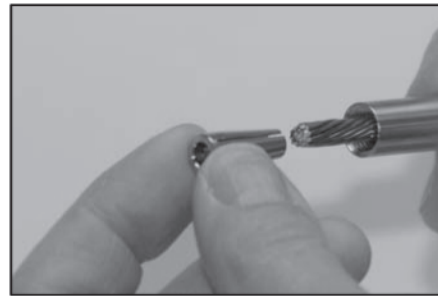
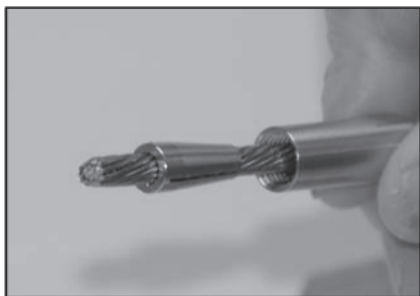

Figure 3
Figure 4
- Step 3 – Install the “Cone Section” onto the wire with the smallest diameter first. See figure 3. *Note: If the cone does not slide on “freely” due to some deformation of the wire, twist the cone, in the same direction as the lay of the wire, while applying light to moderate inward pressure.* Once the cone clears the cable end, it should slide with little effort. See figure 4.